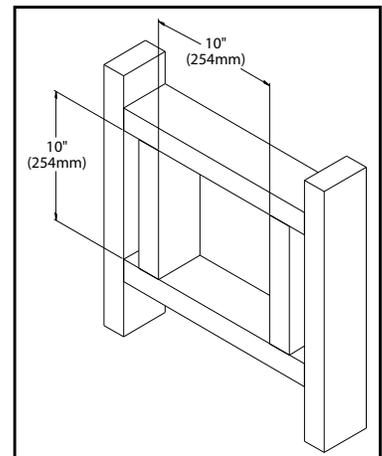

Figure 1
6. Frame the hole as shown in Figure 1.